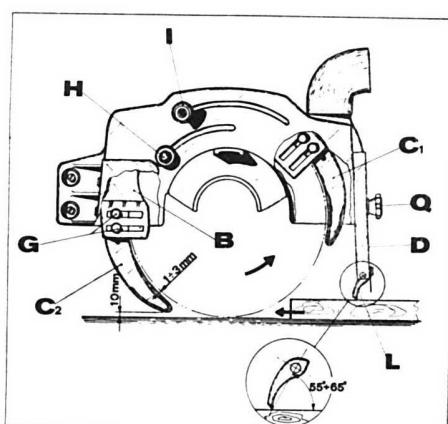

Fig. 24
1. Loosen the 2 knobs (H) and (I), turn the knifeholder until the tip of the knife (C2) is approx. 10mm from the surface of the worktable of the machine. The distance of the knife from the blade must be between 1 - 3 mm, if this is not so, adjust by means of screws (G).
2. Loosen the knob (Q) and lower the whole support (D) until the anti-kickback fingers (L) touch the wood to be cut. They work as indicated in Fig. 24